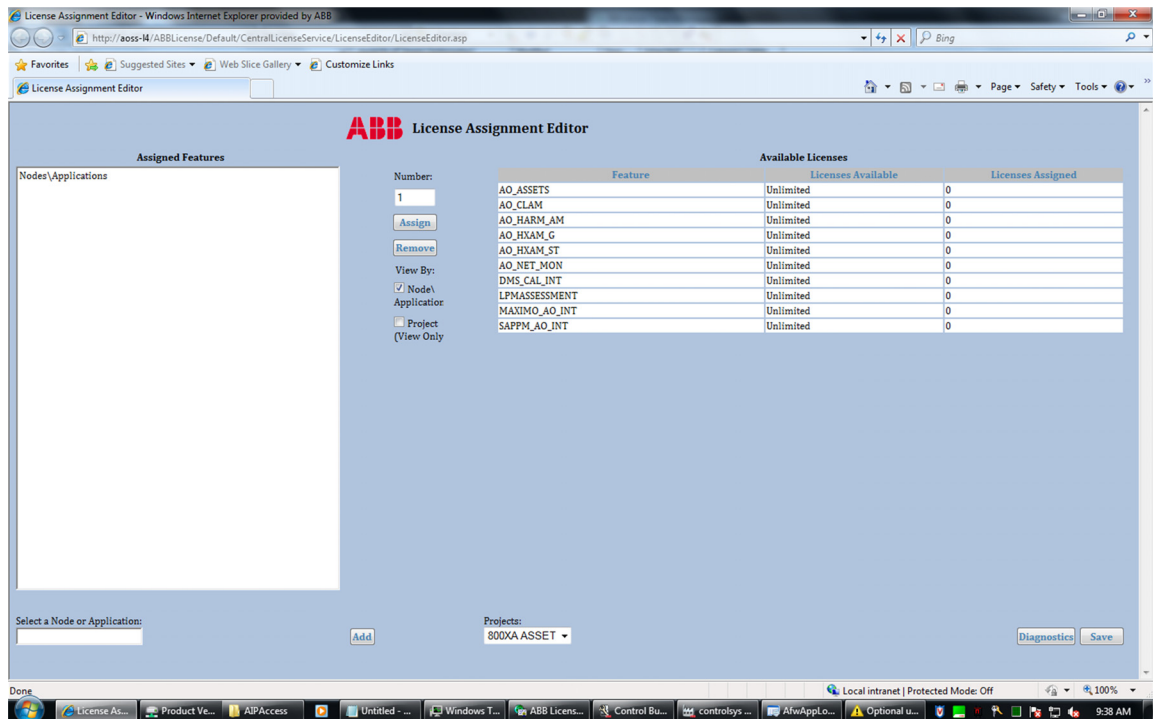

Figure 58. License Assignment Editor
2. This launches the License Assignment Editor as shown in Figure 58. Enter the name of the node in the Select a Node or Application field.
- b. This launches the License Assignment Editor as shown in Figure 58. Click **Diagnostics** to view the listing.